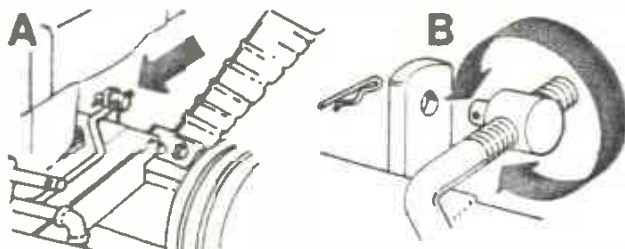

Figure 10. Cutter Deck Belt Adjustment
- 2) Lift the bonnet and locate the front end of the Cutter Deck Engage Clutch Rod connected to the Clutch Lever Arm at the front of the tractor. (See Figure 10. Cutter Belt Adjustment, Section A).
- 4) Rotate the pivot in an anticlockwise direction to 'lengthen' the rod, increasing the travelling distance of the Clutch Lever Arm to achieve sufficient tension on the Cutter Drive Belt. (See Figure 10. Cutter Belt Adjustment, Section B).